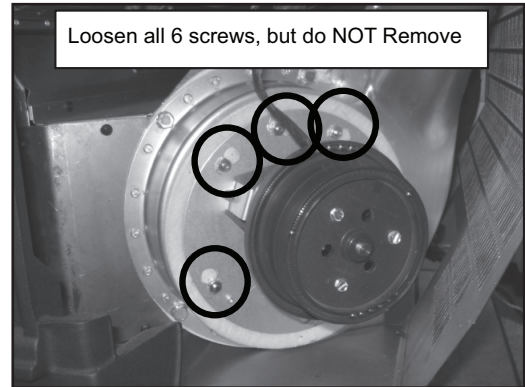

Figure 6
- Use an 11/32 nut driver to loosen all six nuts, but do not remove. Rotate the blower and remove from the housing. **Figure 6.**